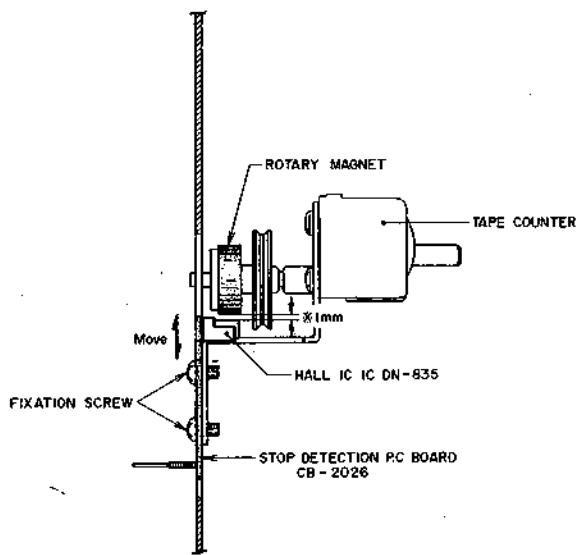

Fig. 19
(Refer to Fig. 19)
- 1) As shown in Fig. 19, move Stop Detection P.C. Board as indicated by the arrow mark in the figure, and adjust position so that the clearance between the HALL IC and rotary magnet is 1 mm.